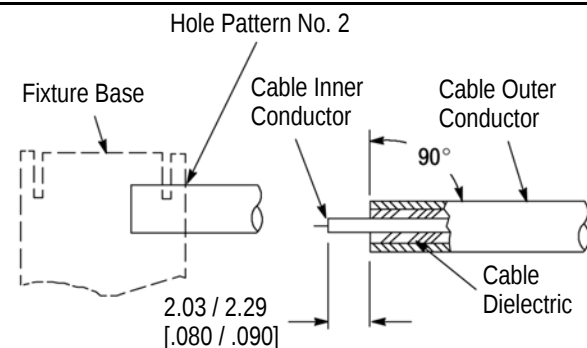

Figure 3
See Figure 3.
5. Complete trimming of cable inner conductor to dimension shown in Figure 3.